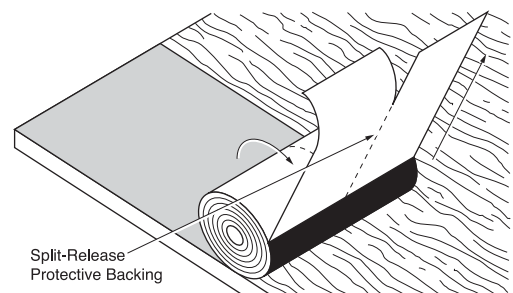

Figure 5-5: Application using the "Roll-Out" method
7. Beginning with the already peeled release film, continue to peel both sections of film from the roll, pulling the roll parallel to the eaves (Figure 5-5). Be sure the WinterGuard lays flat and is sticking well.